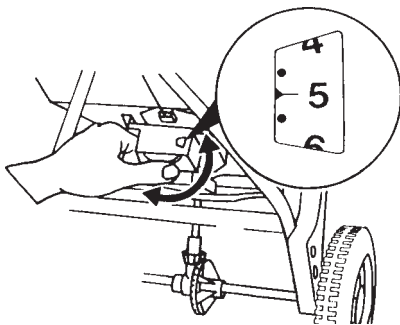

Figure 9
3. Rotate the rate cam to the proper setting. See Figure 9.